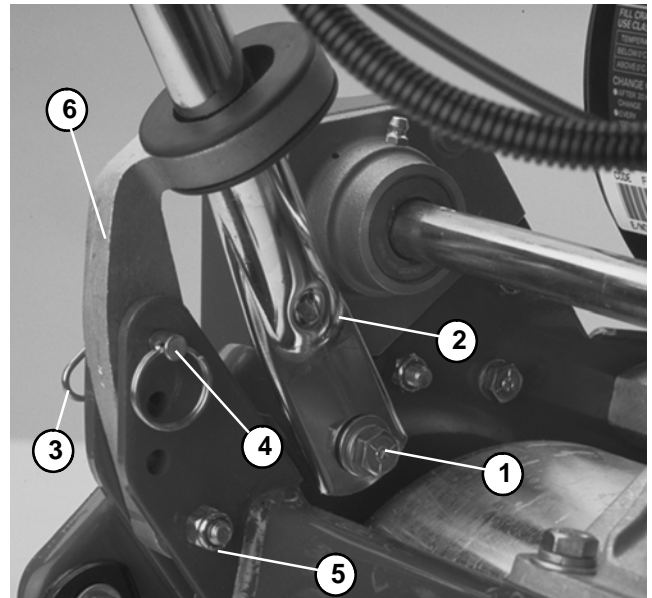

Figure 3
4. Squeeze handle ends inward. Remove handle ends from the handle pivot pins; pull handle ends clear of the holes in the handle arms (Fig. 3).